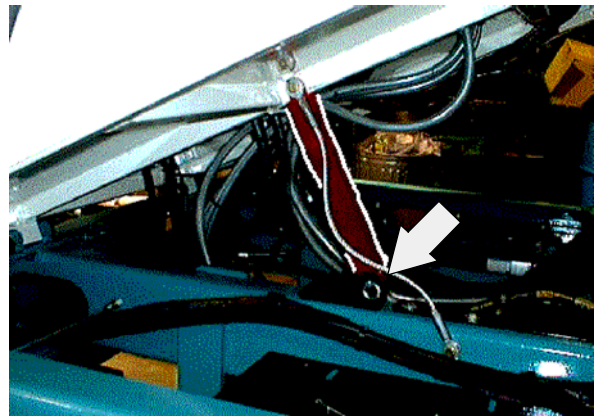

FIG. 4
3. Pull the pin from the cab prop arm, let arm drop down, install pin into the lower hole on the arm and frame bracket. Refer to Fig. 4.